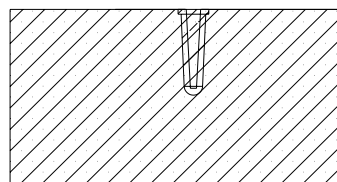

Figure 2
STEP 3. Select the plugs and machine screws and insert a plug into each anchor hole (Figure 2). Ensure that the top of each plug is flush with the surface of the tread.